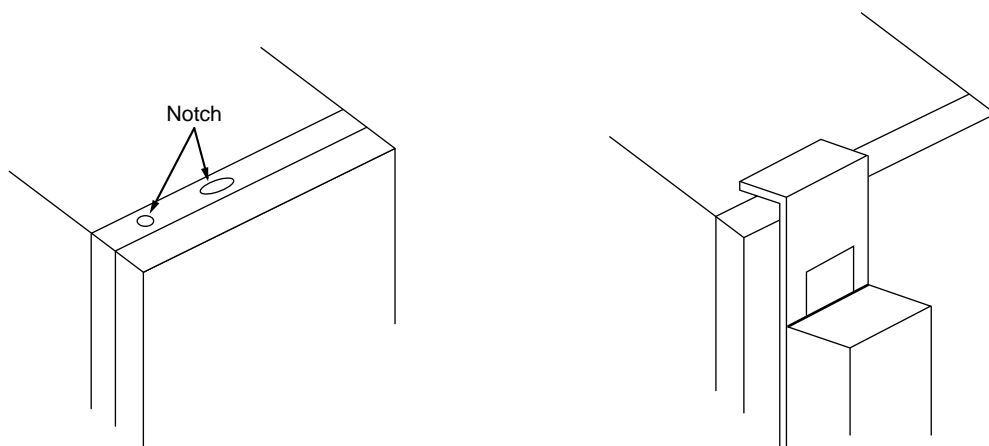

Figure 2.3.3 Installation of the Dedicated Adapter
- (2) Hang the dedicated adapter on the top notches of the US1000 controller, as shown in Figure 2.3.3.
- (3) Push the adapter on to the controller's front panel so that it is securely fixed.